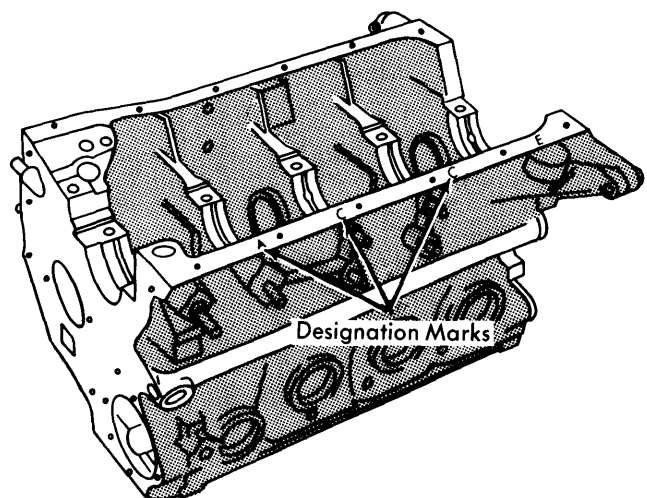

Fig. 4 Piston Bore Class Designation Marks
- 3) Measure piston size at right angle to piston pin and 1.876 (47.65 mm) below piston head. If piston is replaced for any reason, one of the same class must be installed. **NOTE** — Refer to class designation on cylinder block (see Fig. 4).